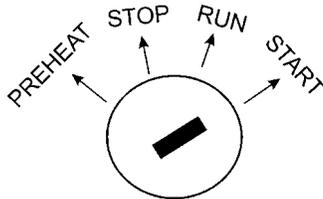

Figure 38. Engine Ignition Switch
7. If the generator is equipped with an ignition switch, turn the key to “Start” position (Figure 38). Once the engine starts, release the key to the “on” position.